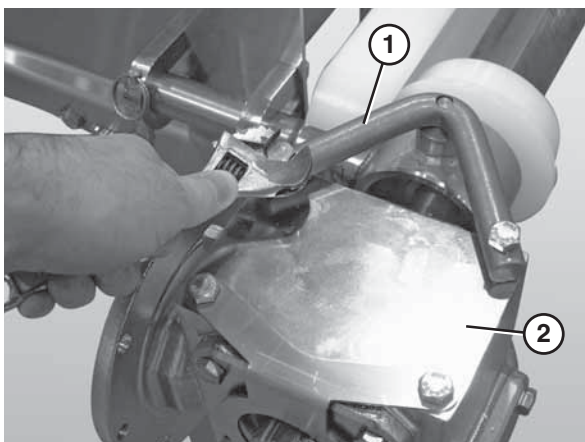

Figure 31
5. Unbolt the gear reducer mounting bars / posts (Figure 31, item 1) from the gear reducer (Figure 31, item 2) (horizontal drive shown in figure).